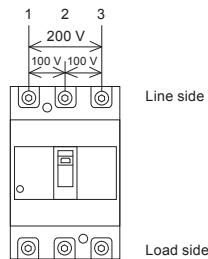

Figure 2. Connection method in a single-phase three-wire circuit
- If using MDU Breaker with a single-phase three-wire circuit, connect it as shown in Figure 2 below with the neutral line connected to the middle pole (2-phase).
3.1.2 Mounting of MDU mounting plate (Figure 2 and 3)
(Figure 2)